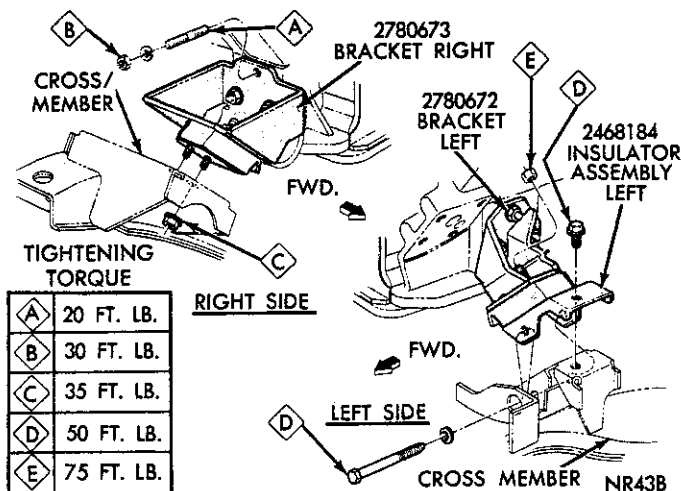

Fig. 1—Front Engine Mounts—Challenger
(1) Install insulators to brackets loosely.
(2) Install engine mounts to engine, lower engine into position and install engine mount to frame bolts. Tighten to specifications (Fig. 1).
(3) On right side install fitting and flexible line to fuel pump; on left side install splash shield.
(4) Install throttle linkage to bellcrank.